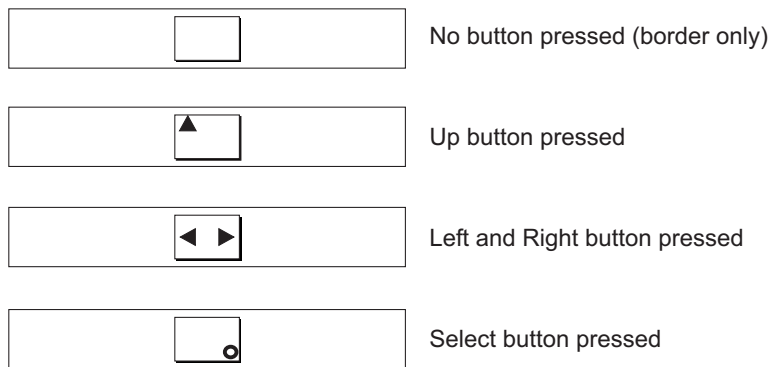

Figure 54. Front panel display when push buttons are pressed
3. Press the up, down, left, and right buttons to verify that they are working. Figure 54 shows four examples of what the front panel should display when you press the buttons. When you have finished testing the buttons, press and hold the select button for five seconds in order to exit the test.